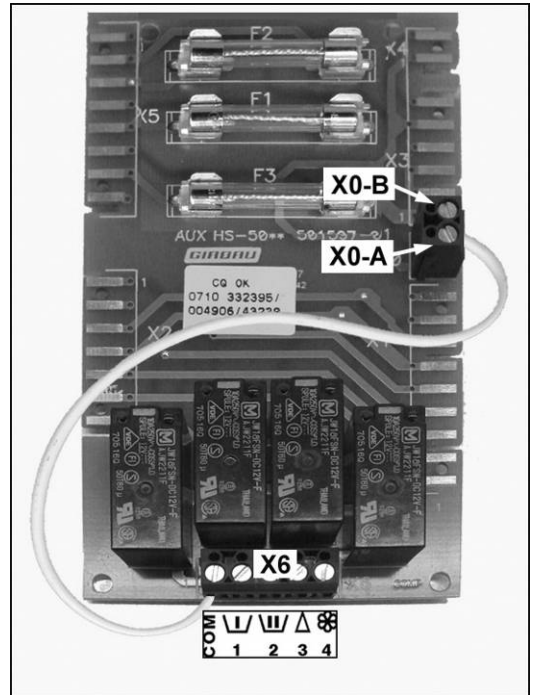

Fig. 3.14
**3.5.1.d. Dosing equipment connection. RELAY CONTACTS POWERED FROM THE WASHER CONTROL CIRCUIT. (Fig. 3.14)**
**Dosing signals connection (Fig. 3.14)**